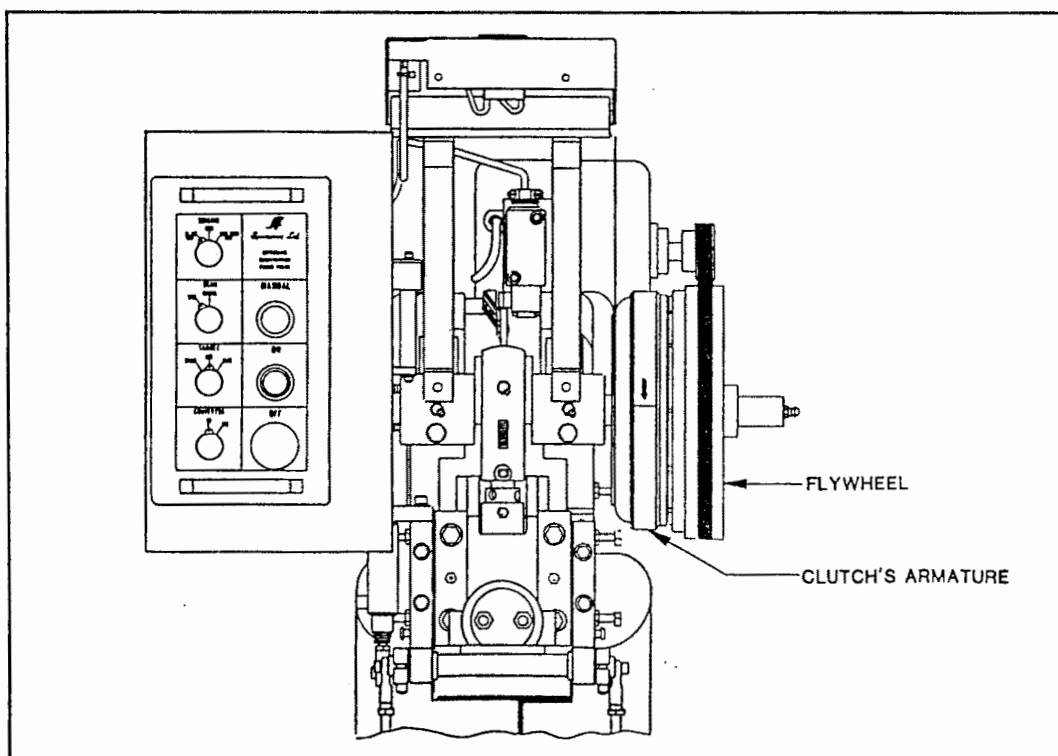

Figure 8.6 A
3. Unhook clutch guard (105) from press. Clutch guard has two hooks that hook onto top of press.
6. Manually trip press and see if clutch slips when press is tripped. The flywheel will move faster than the clutch's armature if the clutch slips when the press is tripped (see Figure 8.6 A). Also, the clutch may make a grinding sound if it is slipping. The clutch will slip if it is worn out or if it has grease in it. If the clutch slips, replace it according to steps 7-8, 16, & 18-54. If the clutch does not work at all, go to Step 7.